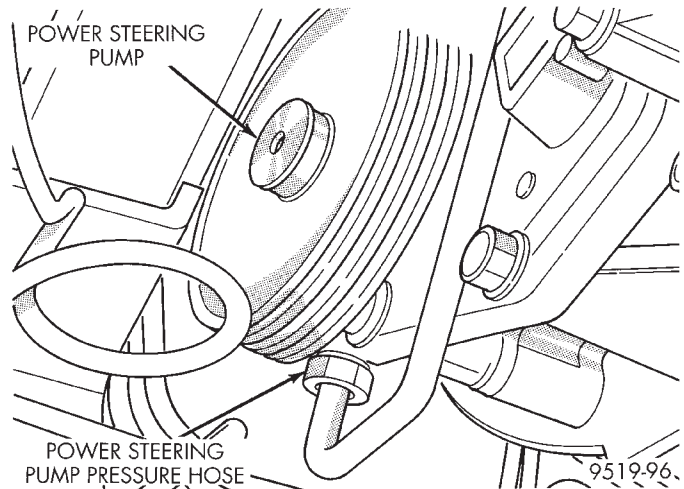

Fig. 13 Power Steering Pump Pressure Fitting
(7) Remove the power steering pressure hose from the pressure fitting on power steering pump (Fig. 13).